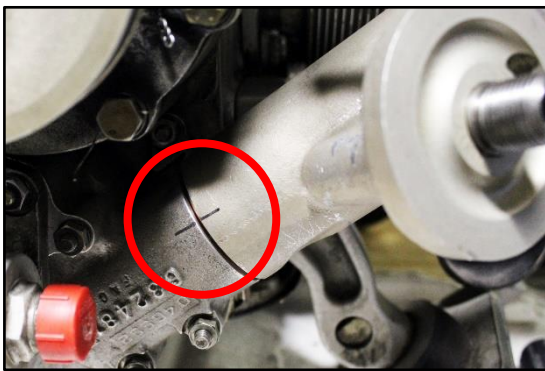
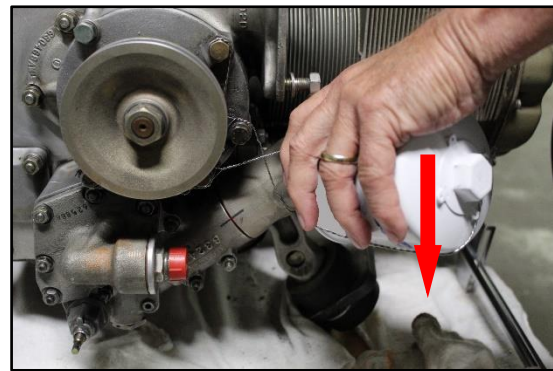

Figure 1
Figure 2
- a. Use a fine point felt pen to make a match mark on the sleeve and oil pump housing as shown in Figure 1. While standing beside the aircraft, grasp the oil filter and, using the filter as a lever (or 'handle'), apply approximately 10 to 20 pounds of force in an attempt to rotate the filter sleeve in a counter-clockwise direction around the spool, see Figure 2. (Note: You are not trying to unscrew the filter itself. You are trying to make the sleeve rotate about the spool). Check the match marks for movement of the sleeve. If ANY displacement of the match marks occurred and/or any movement of the sleeve, the spool, or both are detected, no matter how slight, proceed directly to Paragraph 4.